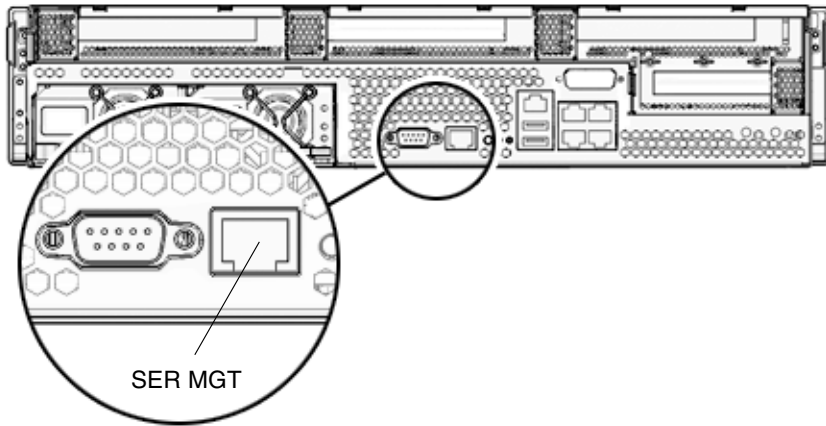

FIGURE 5-3 Service Processor Serial Connection
Use the SP serial management port for server management. This port is needed to set up the SP network management port. The SP serial management port is marked SER MGT. It is the leftmost RJ-45 port on the rear of the chassis (FIGURE 5-3).
3. **Connect a serial cable from the RJ-45 SERIAL MGT port on the server’s back panel to a terminal device (FIGURE 5-3).**